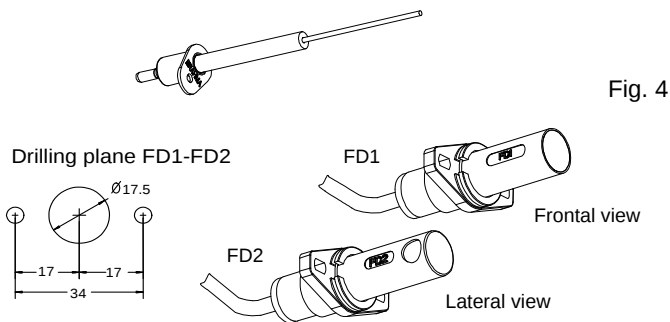
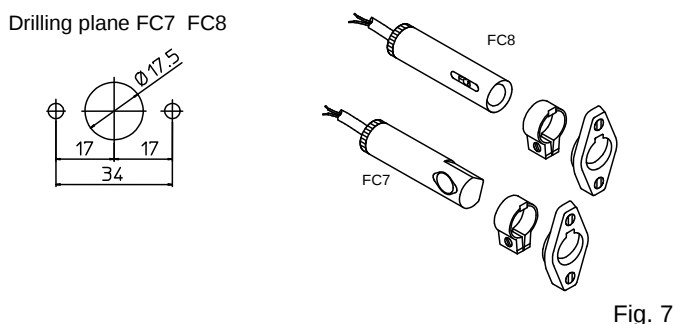

Fig. 5, FD..
Fig. 7
- Flame detection in gas appliances, BTXXXG, is based on the rectification principle of the flame and managed by electrodes (fig. 4); technical features in datasheet 4066. In appliances where the temperature is very high and so the detection electrode may be compromised, it's possible to use sensors FD1/S BT - FD2/S BT (fig. 5) or UV.. sensors (fig. 6).
- For BTXXXO in fuel oil applications, the sensors FD1D BT - FD2D BT (fig. 5) or UV.. sensors (fig. 6) can be used only in blue flame appliances; while photocells FC11, FC13, FC14 (fig. 7 e 8) or FT11, FT13 photo-transistors can be used only in yellow flame appliances.